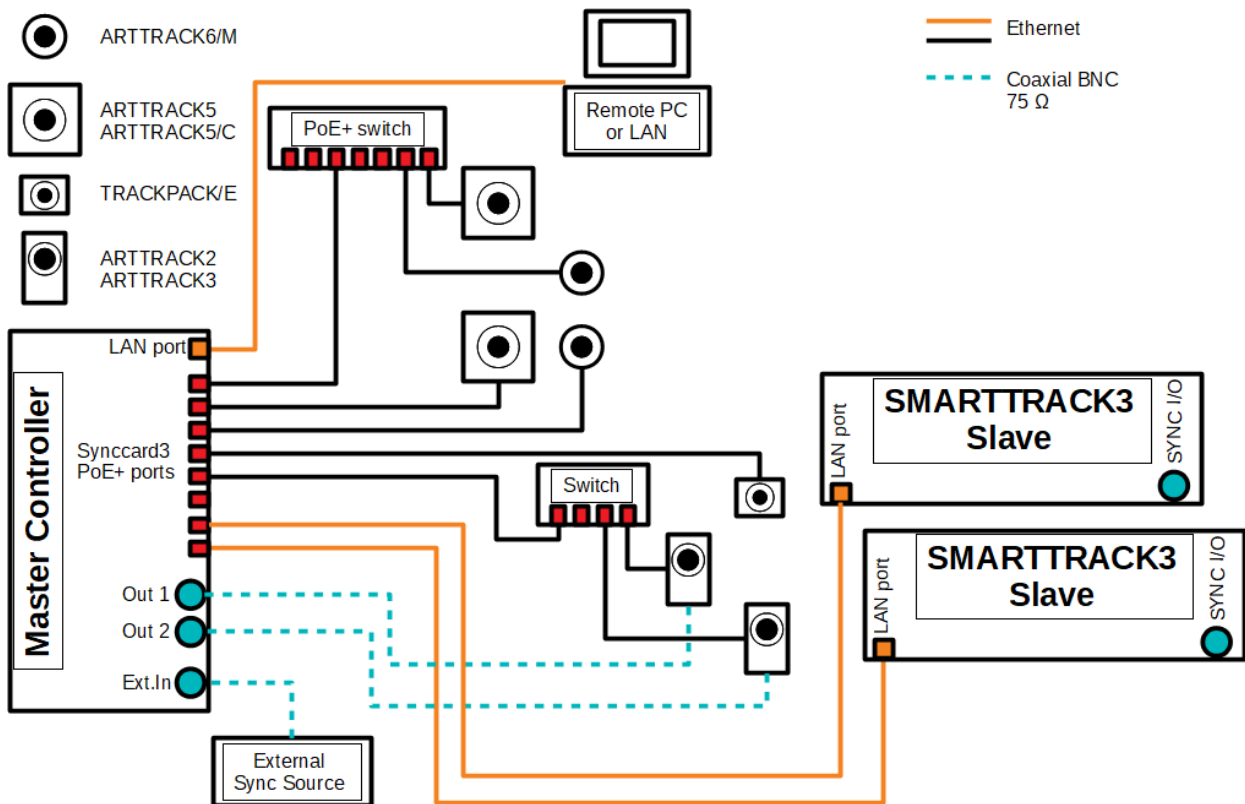

Figure 5.24: Principle of cascading master *ART Controller* or *ART Controller/M* - slave *SMARTTRACK3* & *SMARTTRACK3/M*
**Option 3 - using the Synccard3 PoE+ ports** Connect each data output 'LAN network port' of the **SMARTTRACK3** & **SMARTTRACK3/M** to the **ART Synccard3** PoE+ ports of the master. Synchronisation with the master controller is provided through the **Sync-card3** , a BNC coaxial connection is not necessary, see fig. 5.24 on page 72).